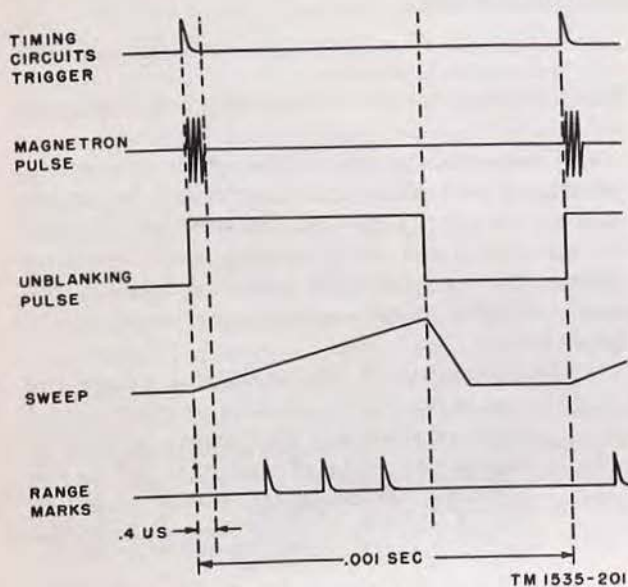

Figure 89. Radar timing chart.
(fig. 89)
*c.* Three minutes after all the other power supplies have been placed into operation, the modulator power supply goes on. In addition to firing the circuits in the synchronizing and indicating system, the timing circuits now trigger the modulator. All the important pulses are as shown in figure 89.
- (1) Operation of the modulator causes the magnetron to produce a .4-microsecond burst of rf energy (not shown to scale in figure 89). The rf energy is fed to the antenna. Some of the energy is fed to the afc, which controls the output of the klystron local oscillator.
- (2) The unblanking pulse starts at the very moment the magnetron is fired. The pulse time duration is determined by the setting of the RANGE switch.
- (3) The sweep signal starts the same time the unblanking pulse starts. Its length is the same as the unblanking pulse.
- (4) On the 3-mile range, the range mark circuits produce three range marks equally spaced across the length of the sweep. On the 1-, 8-, and 20-mile ranges, the range mark circuits produce two, four, and four equally spaced range marks, respectively.
- (5) Returning echoes go through the mixer and signal circuits of the receiving system and are converted into video signals. These signals go through the video circuits to the cathode of the PPI in the synchronizing and indicating system. The video signals appear as intensified spots on the PPI screen. Their location on the time base is determined by the distance between the targets and the radar set.